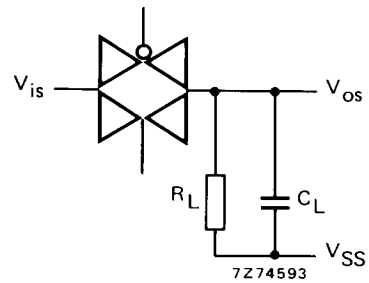

Fig. 8.
- $R_L = 10\text{ k}\Omega$; $C_L = 15\text{ pF}$; channel ON; $V_{is} = \frac{1}{2} V_{DD(p-p)}$ (sine-wave, symmetrical about $\frac{1}{2} V_{DD}$); $f_{is} = 1\text{ kHz}$; see Fig. 8.
$20 \log \frac{V_{os}}{V_{is}} = -50\text{ dB}$; see Fig. 8.
$20 \log \frac{V_{os}}{V_{is}} = -3\text{ dB}$; see Fig. 8.